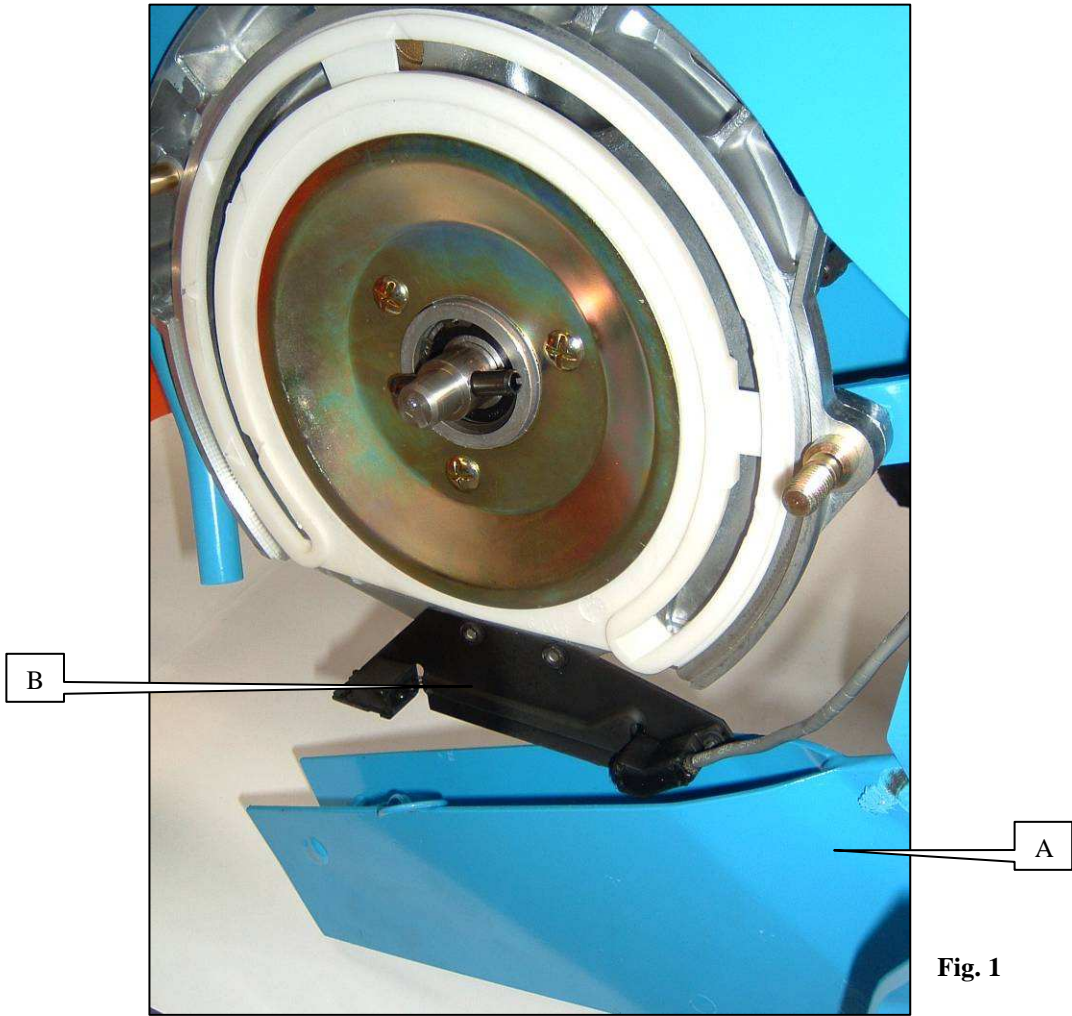

Fig. 1
c) Montage sur semoir NC (Fig.1)
c) Mounting on a NC seeder (Fig.1)